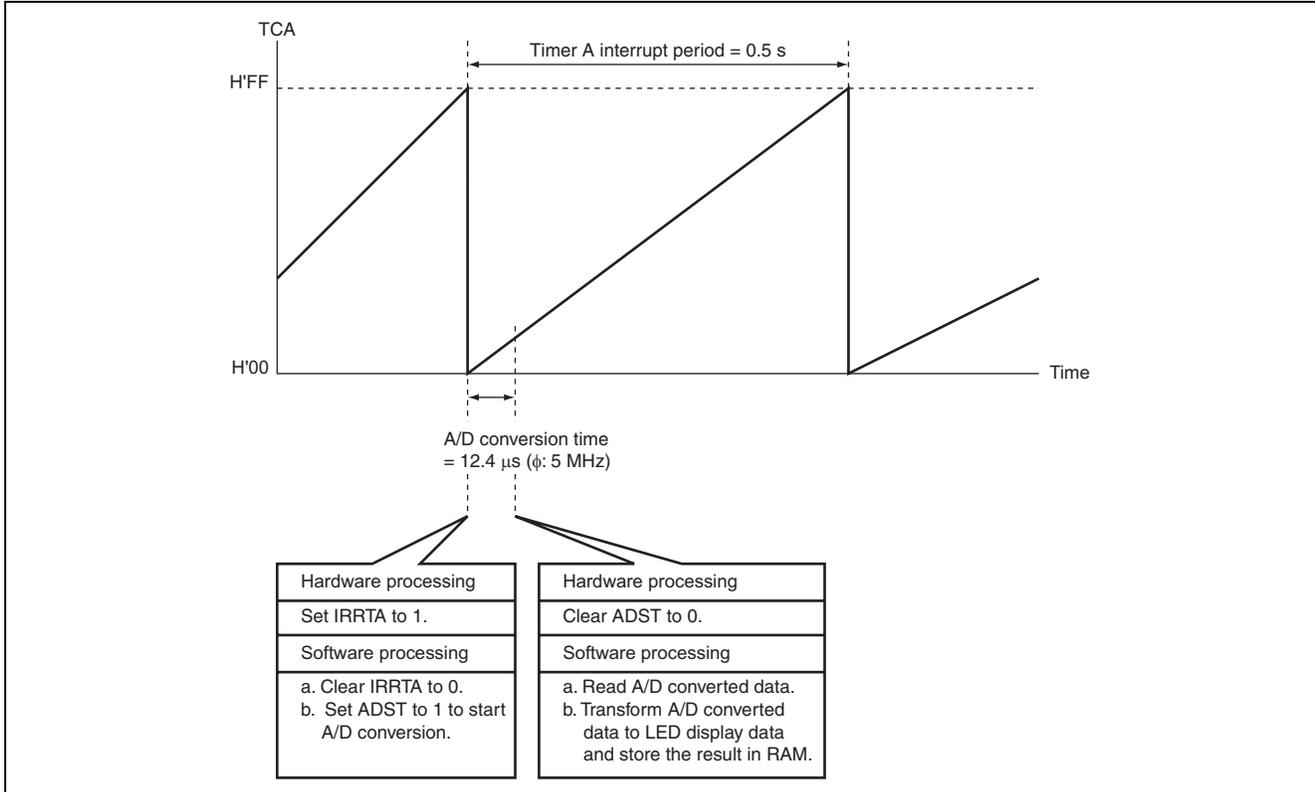

Figure 3.1 Operation Principle of A/D Conversion of AN0-Pin Signal Using Timer A
- Figure 3.1 shows the principle of operation in the use of timer A and A/D conversion carried out on the AN0 pin. The A/D conversion interrupt is not used in this sample task. Instead, the completion of A/D conversion is detected in the tmra interrupt processing routine.